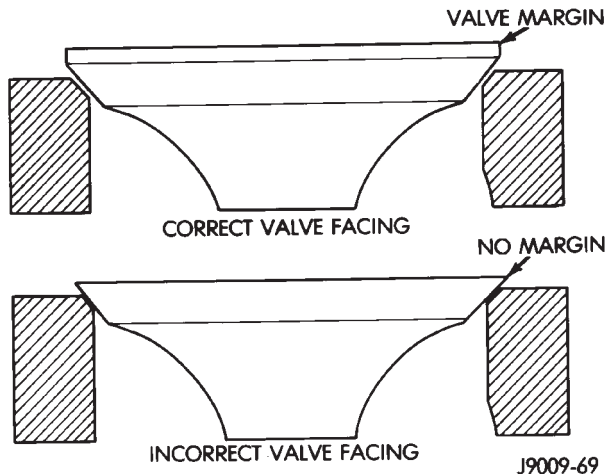

Fig. 63 Valve Facing Margin
(1) Use a valve refacing machine to reface the intake and exhaust valves to the specified angle.
(2) After refacing, a margin of at least 0.787 mm (0.031 inch) must remain (Fig. 63). If the margin is less than 0.787 mm (0.031 inch), the valve must be replaced.